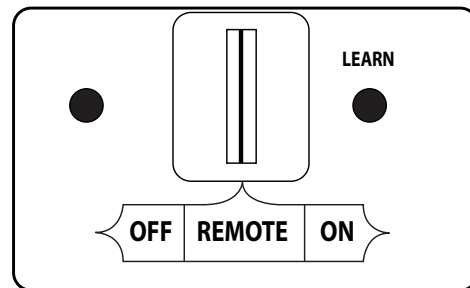

Fig. 19-1 Remote receiver detail (REMOTE)
1. Locate the 3-position switch on the remote receiver (see Fig. 19-1), and slide the switch to the **REMOTE** position.